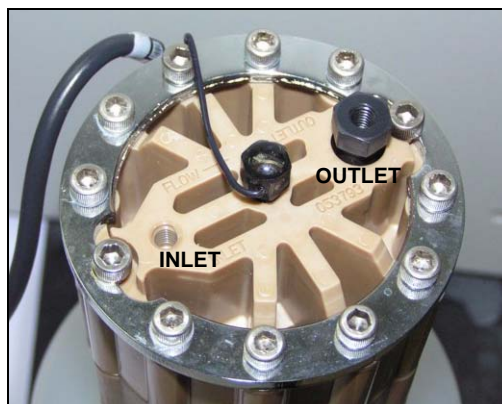

Figure 5-35. EluGen Cartridge Inlet and Outlet Ports
11. Orient the EluGen cartridge with the fittings facing up and remove the plugs from the EluGen cartridge **INLET** and **OUTLET** ports (see Figure 5-35).